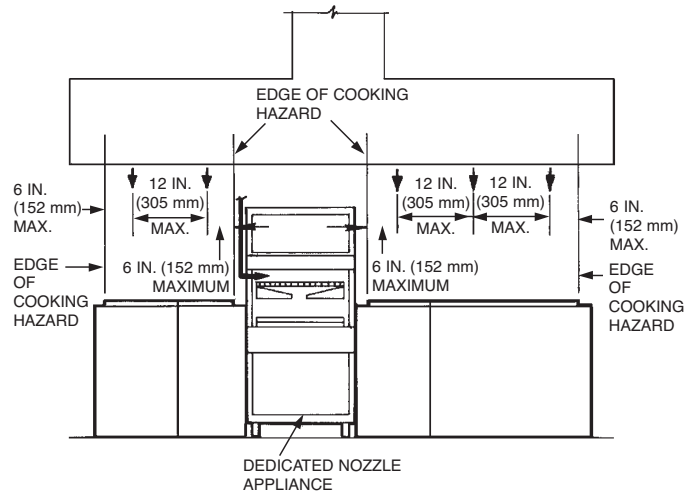

FIGURE 78
3. When an appliance requires dedicated protection with a protected area intended for overlapping appliance nozzle protection, the group protection option will be required for appliances on either side of the appliances using dedicated protection. Group protection using overlapping appliance nozzles must begin with the protected appliance(s) adjacent to the dedicated appliance protected. An overlapping appliance nozzle(s) must be positioned within 6 in. (152 mm) of the edge(s) of the appliance hazard surface area(s) adjacent to the dedicated nozzle protection. See Figure 78.